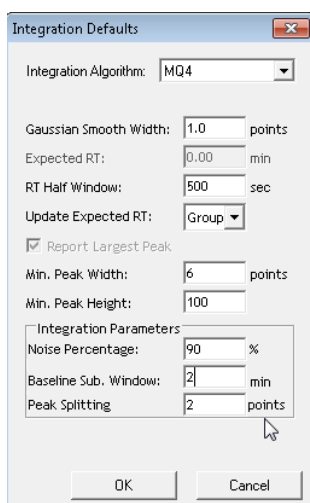

Figure B-4. Integration defaults for data processing the global metabolomics data.
- Click Edit then Project Integration Defaults. Set the integration defaults as shown in **Figure B-4**.